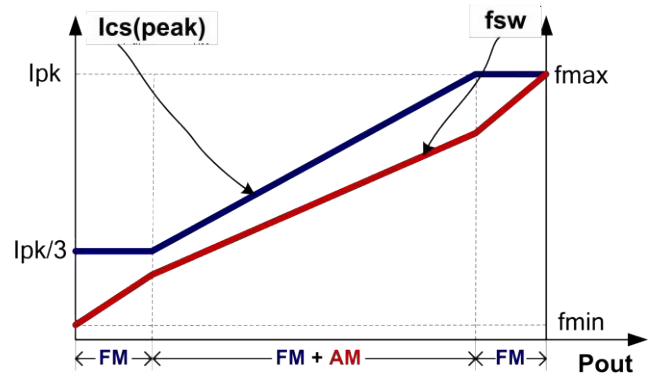

Fig.4
To meet the tight requirement of averaged system efficiency and no load power consumption, a hybrid of frequency modulation (FM) and amplitude modulation (AM) is adopted in ZS305X which is shown in the Fig 4.